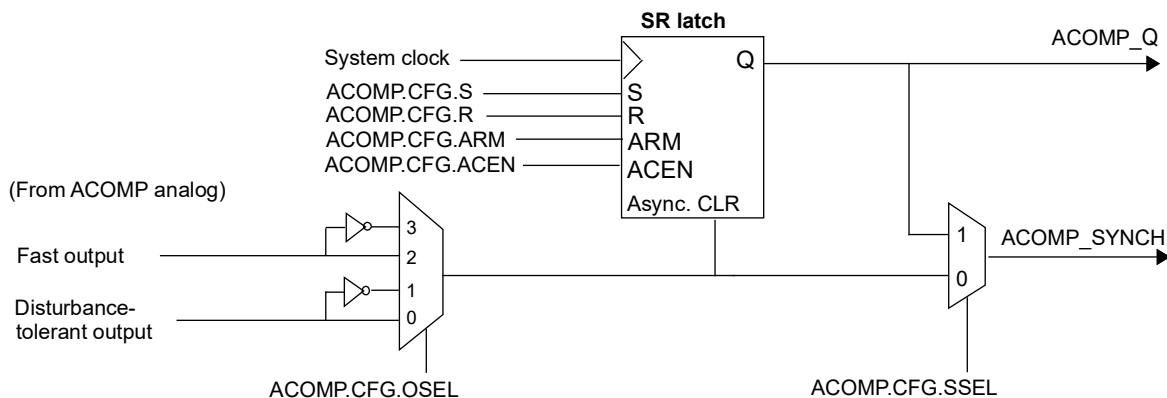

Figure 31. Block diagram of digital logic connected between one GR716B ACOMP unit and the rest of the system.
Before processed by more complex digital logic, the output of each analog comparator passes through muxes, inverters and an SR latch as shown in Figure 31. The first mux allows to select the fast or disturbance tolerant outputs, or their digital inversion. The selected signal can optionally be used as the (active high) asynchronous clear input of the SR latch. Both the output of the SR latch and the selected signal itself are propagated to the rest of the system as the signals ACOMP_Q[n] and ACOMP_SYNCH[n] respectively (where n ranges from 0 to 19).
Each comparator output is connected to an SR latch as depicted in Figure 31. The SR latch has one asynchronous clear input (CLR) that can be connected directly to the output of the comparator. When asynchronous clear is enabled (ACOMP.CFGn.ACEN=11b) a high value of CLR immediately causes the output (Q) of the SR latch to become 0.
Additional SR latches and muxes as in Figure 31 exist for ACOMP-derived signals in the APWM_AB and APWM_A units. That logic is in that case controlled by registers in the APWM_AB and APWM_A units respectively. See sections 53.2 and 53.3 for details.